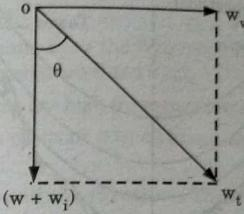

Fig. 3.4.3.
2. Hence the total force acting on the conductor is vector sum of the horizontal and vertical forces as shown in Fig. 3.4.3.